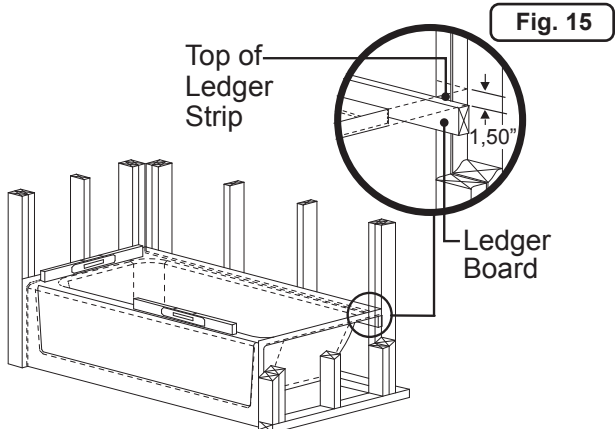

Fig. 15
2. Place the tub in the alcove with the front skirt firmly on the floor. The bathtub must be set level. To check, use a level on top of the ledges on both ends of tub and on top of dam (Figure 15).
3. After leveling tub, mark each stud (concrete or block wall) immediately above the back horizontal flange. Remove tub from alcove. Measure the distance between the top of the back horizontal flange and the bottom of the tub ledge approximately 1 1/2" (40 mm). Carefully mark this dimension on the back studs (or wall), below the first mark (Figure 15 - inset).
4. Install a Ledger Strip: Jacuzzi mandates the use of supports under the rear ledges of bathtubs to prevent shifting. Use horizontal ledger strip along the entire rear ledge or "I", "T" supports in at least two places in vertical position. Nail a 1" x 3" (25 mm x 75 mm) ledger strip immediately below the lower marks made on framing (Figure 15 - inset).